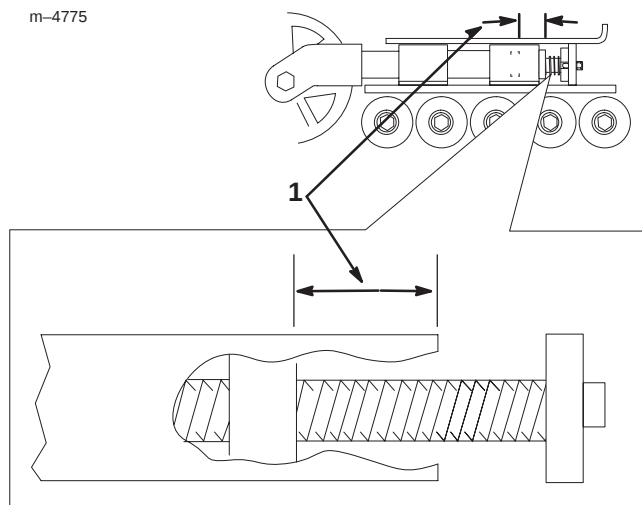

Figure 32
11. Turn the tensioning screw counter-clockwise until the distance between the tension nut and the back of the fork tube (Fig. 32) is 2 3/4 in. (7 cm.).